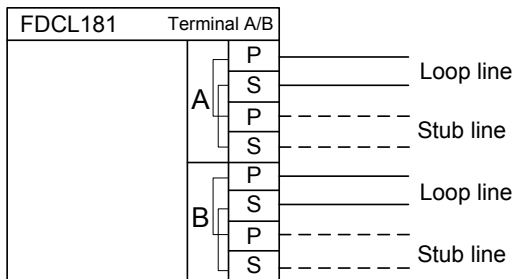

Fig. 5
- Connect the cables to the terminals according to Fig. 5.